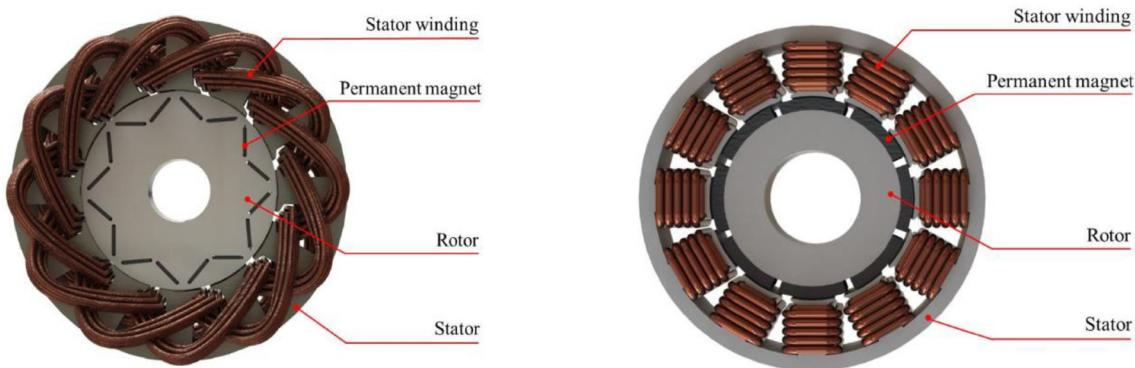

FIGURE 8-29. (a) IPM motor (b) brushless dc motor configurations
IPM (interior permanent magnet) motor is an Alternating Current (AC) synchronous motor, where the permanent magnets are inserted inside the rotor, while in brushless dc motors the permanent magnets are mounted on the surface of the rotor, as illustrated in figure 8-29.